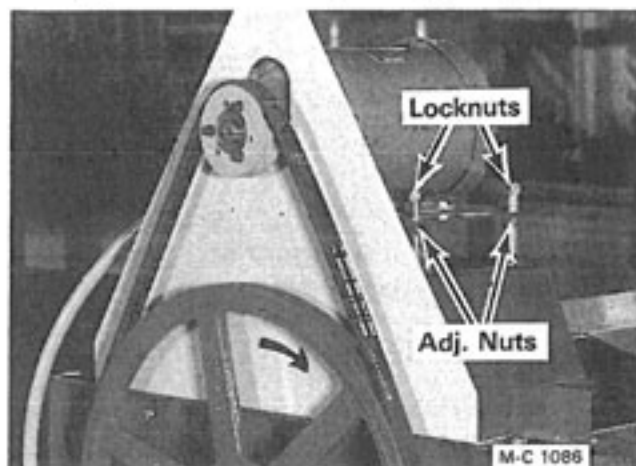

Figure 30
1. Adjust the belt tension by loosening the locknuts and raising the motor mount plate evenly with the four adjusting nuts, then tighten the locknuts, see Figure 30.